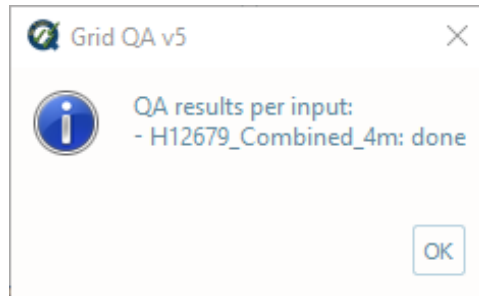

Fig. 2.20: The output message at the end of **Grid QA v5** execution.
- After computing, the output window opens automatically, and the results are shown (Fig. 2.20).